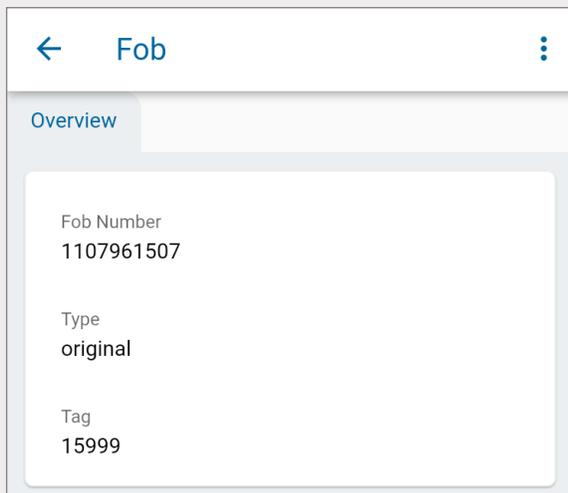

Fig. 172 – Fob Overview screen
3. Select the **quick action menu** , then select **Edit** to open the **Edit Fob** screen, as shown in Fig. 172.